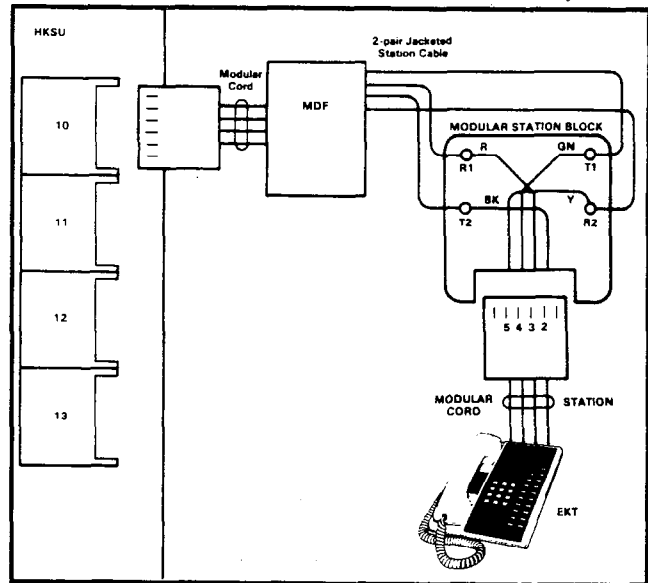

FIGURE 15—EKT WIRING
06.14 At the station locations, terminate the station cable in a conventional 4- or 6-conductor modular station connector to accommodate the modular line cord from the EKT. The standard modular EKT cord length is 7', while the maximum allowed length is 25'. Figure 15 shows the EKT wiring arrangement.